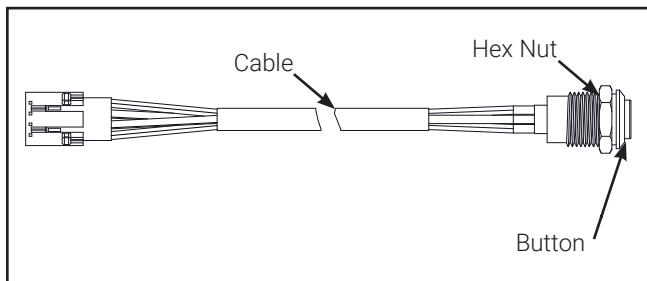
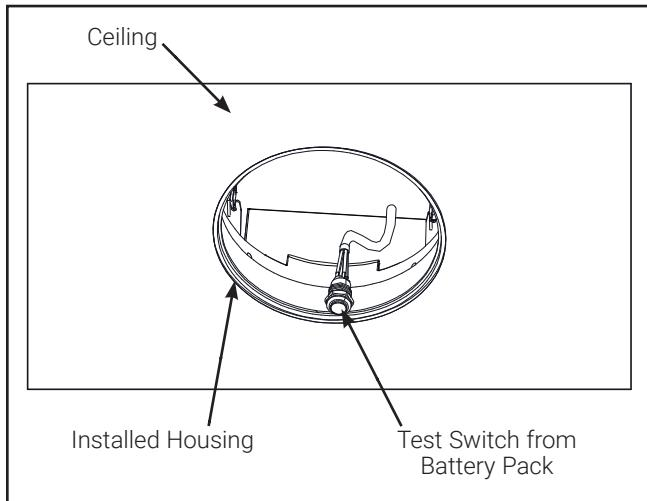

Figure 1.
Figure 2.
1. Takeout test switch from battery pack in the installed housing (Figure 1 & Figure 2).